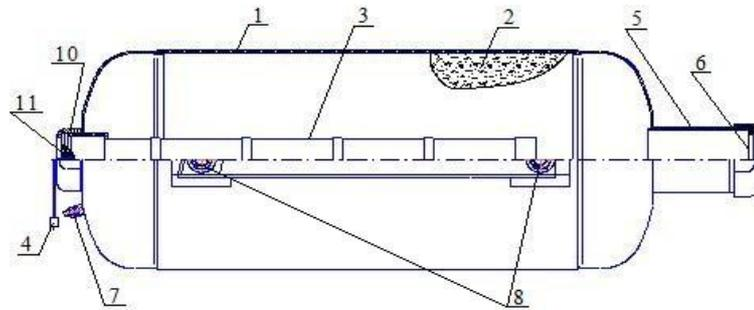
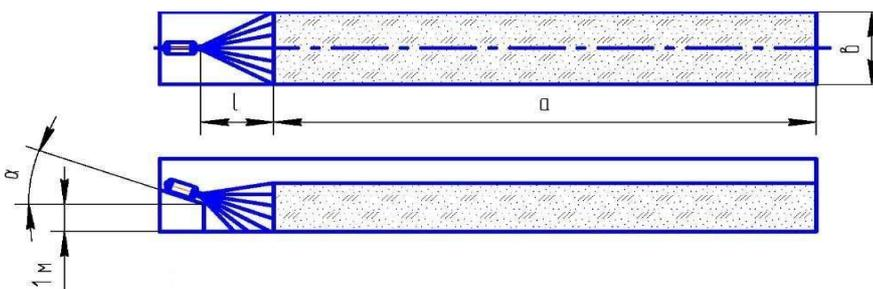
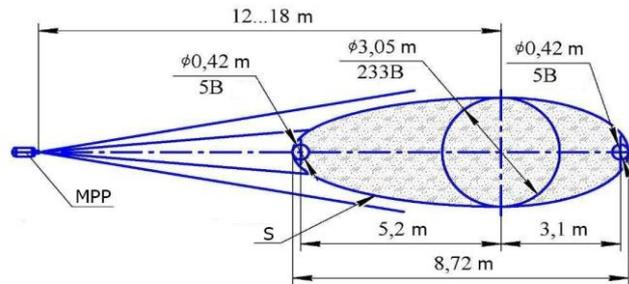

Figure 1
Figure 3. Extinguishing effect on Class A fires and on Class B fires.
Figure 4. Area sketch of the protection area when extinguishing local fires
4.1 MPH (Figure 1.) consists of the pressure body 1 , which includes: extinguishing powder (HP) 2 and cold gas generator (GSP) 3 with electric fuse 4 . On the other side of the hood is the atomizer insert 5 , as well as the outlet, which closes with a membrane 6 . The module is equipped with a grounding terminal 7 . The upper part of the MPH s equipped with a holder 8.
6.2 Suspension 8 can be mounted under the ceiling (Figure 1) or suspension 9 (Figure 2) can be attached to the wall. Please mark the places for attaching the suspension as on the (Figure 3) and on the wall acc. (Figure 4).
6.6 The configuration of the powder dispersion and the representation of the extinguishing surfaces for ceiling mounting are shown in Figure 4 and Tables 2 and 3, and for wall mounting in the following Figures 3 and 4 and Table 1.